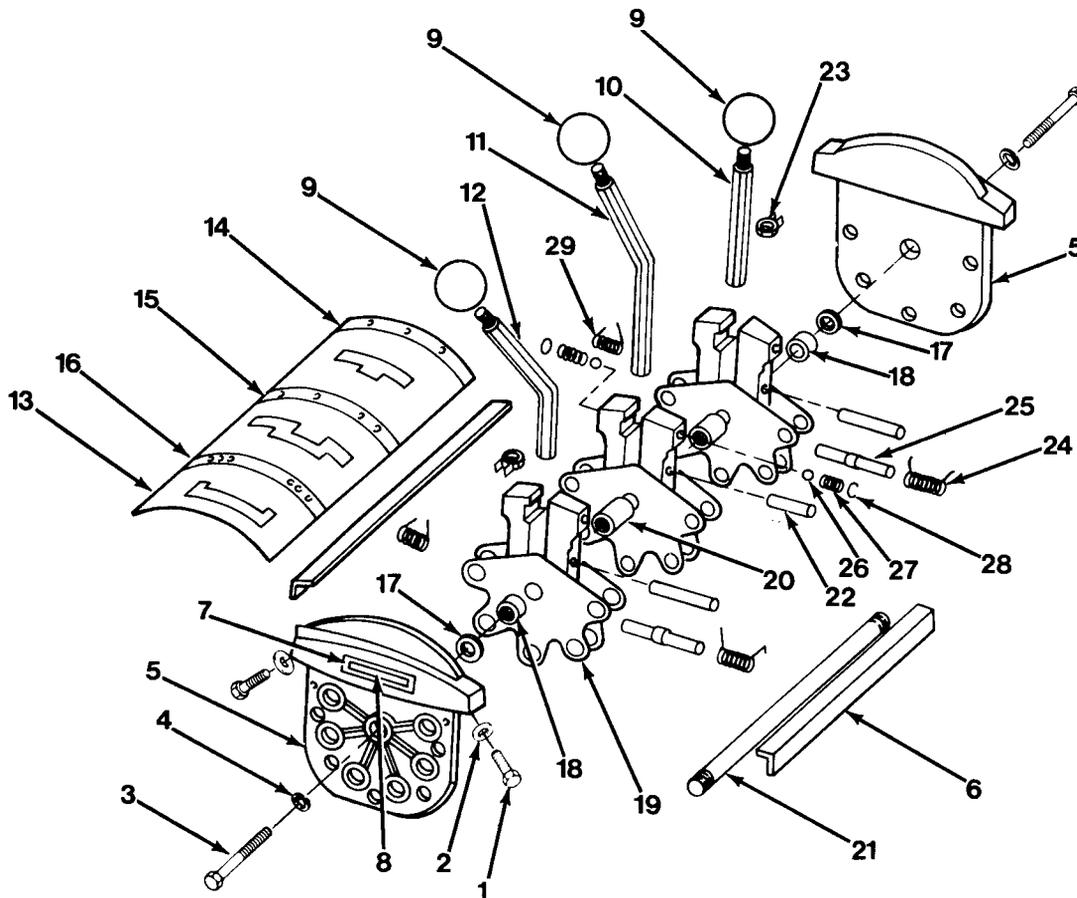

Figure 17-1
1. Remove four capscrews (1) and lockwashers (2, Figure 17-1).
2. Remove two capscrews (3) and lockwashers (4).
3. Remove two side housings (5) and extruded spacers (6) from control assembly.